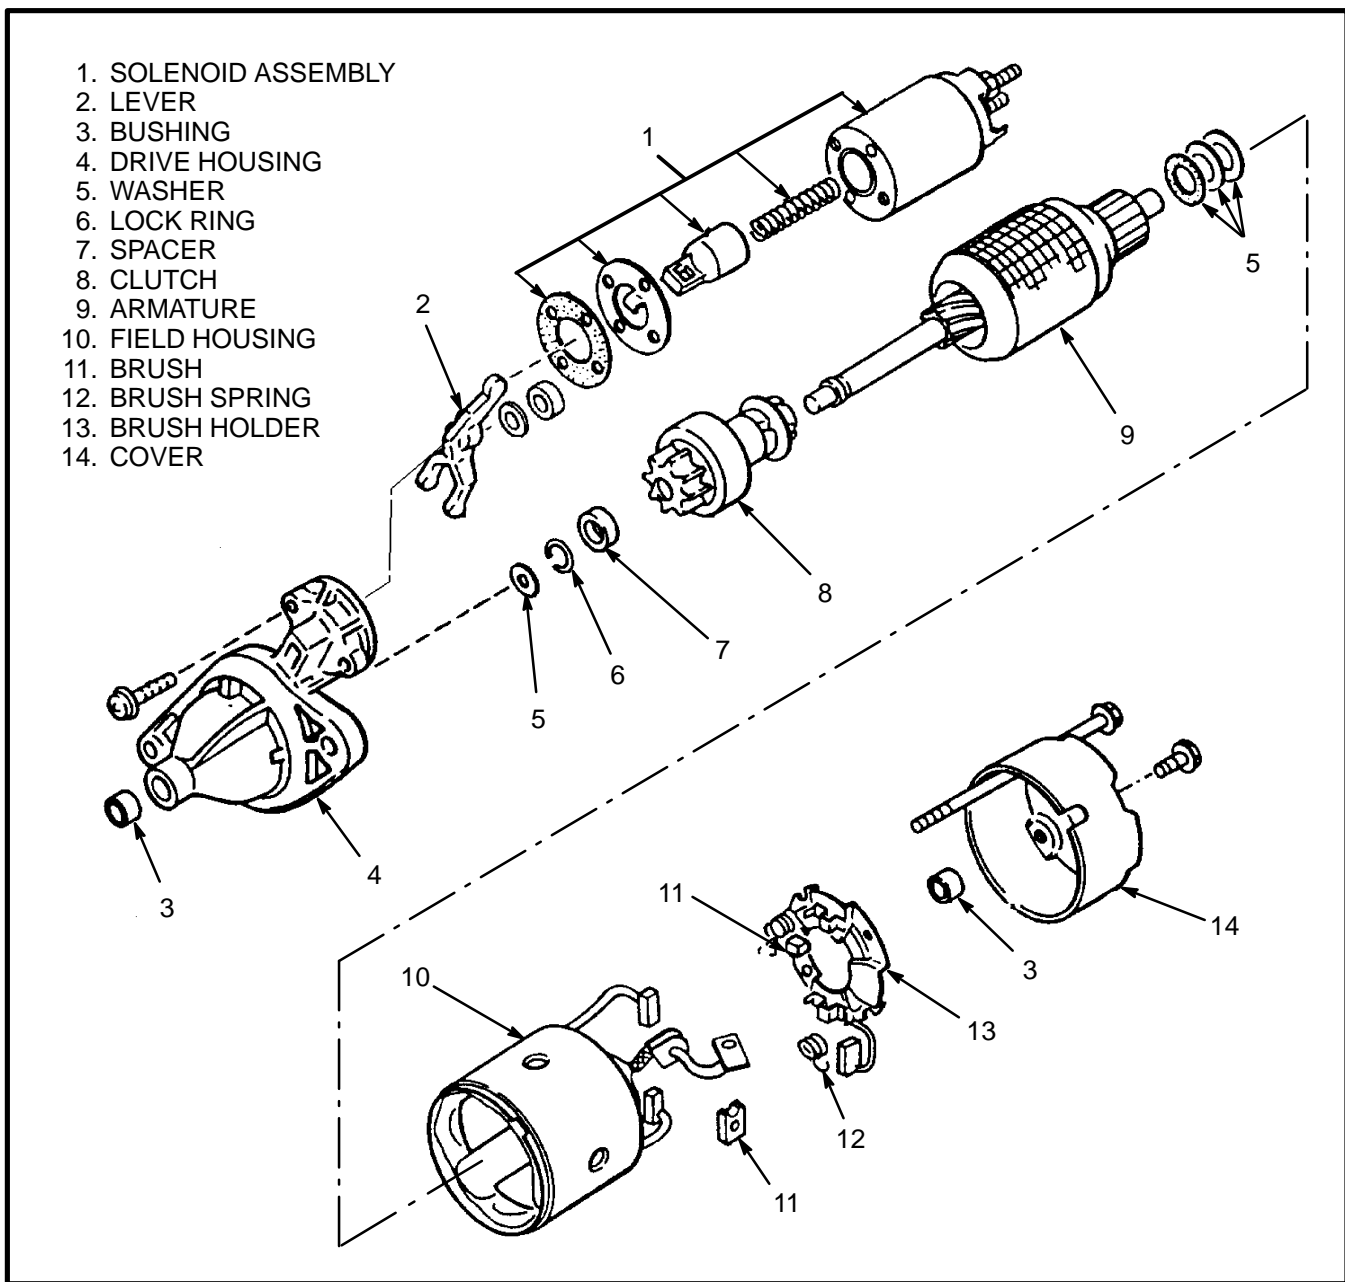

FIGURE 5. PARTS OF THE STARTER
Assembly And Installation (See FIGURE 5.)
1. Install the clutch assembly on the armature shaft. See FIGURE 5. Install the retainer and snap ring to hold the clutch assembly on the armature shaft.
4. Lift the brush springs and install all of the brushes. Install the washers on the armature shaft. See FIGURE 5.